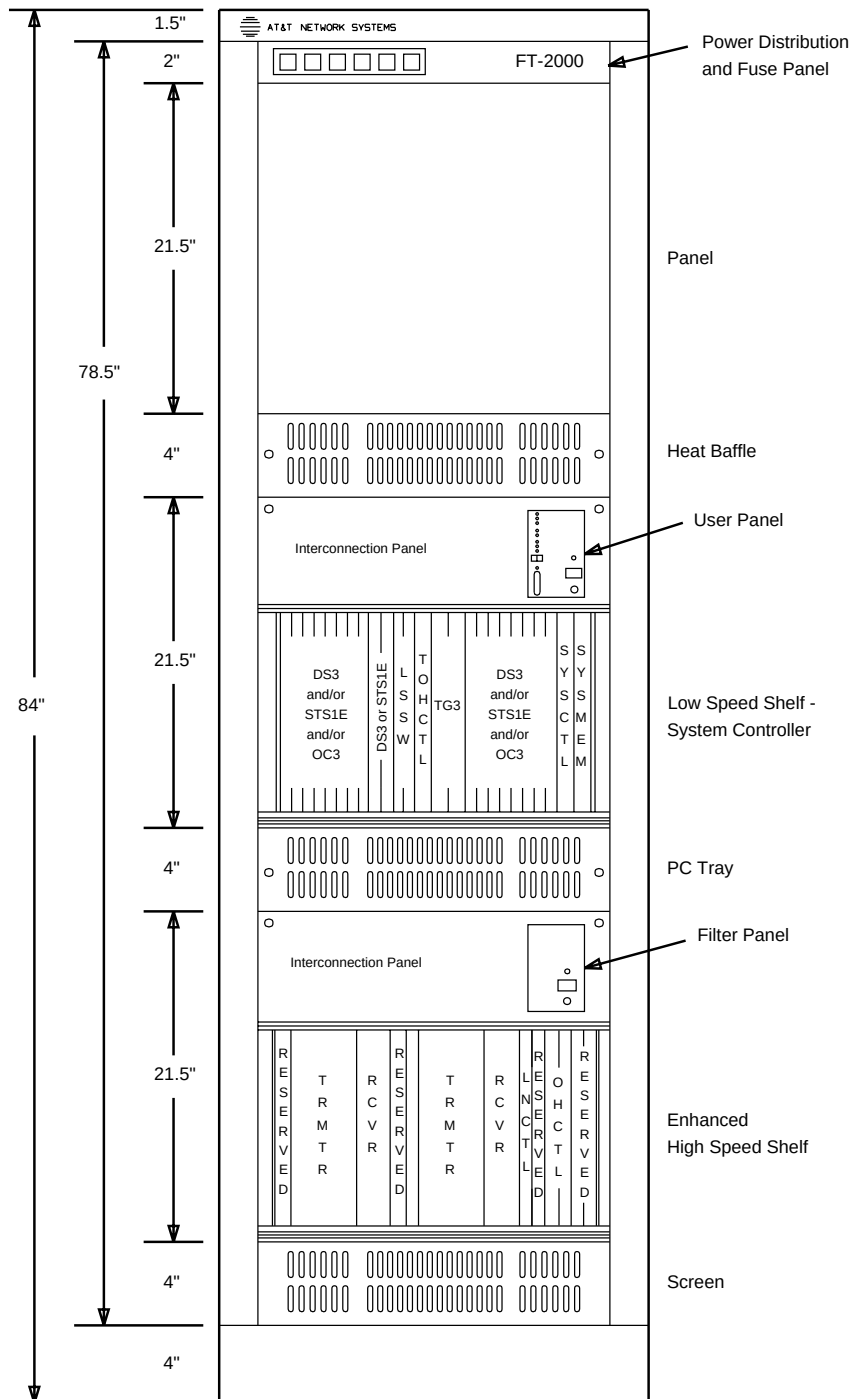

**Figure 1 – FT-2000 OC-48 Add/Drop-Rings Terminal for 2-Fiber Rings**
6. About 32 inches from the floor, locate two 1/4-turn fasteners on the PC tray screen. See Figure 1.